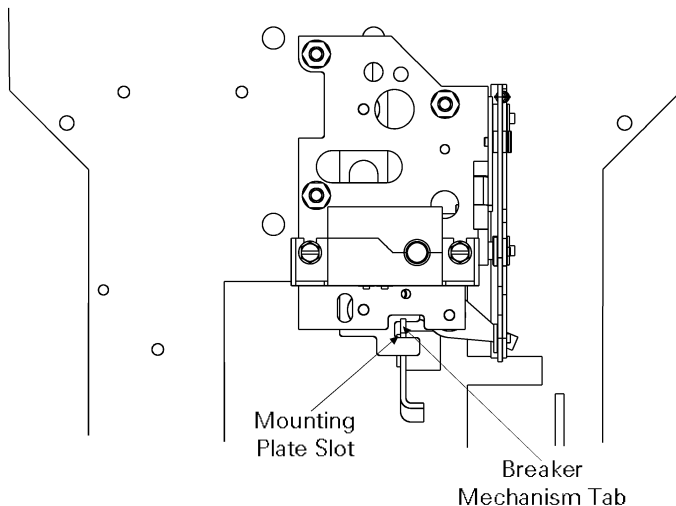

Figure 46. Front view of the Bell Alarm with Lockout installation, showing the breaker mechanism tab engaging the mounting plate slot.
1. Place the Bell Alarm mounting plate over the three standoffs on the breaker front frame and secure with three lock washers and nuts. Ensure that the actuating tab from the breaker mechanism engages the slot in the bottom of the mounting plate, as illustrated in the front view in Figure 46.